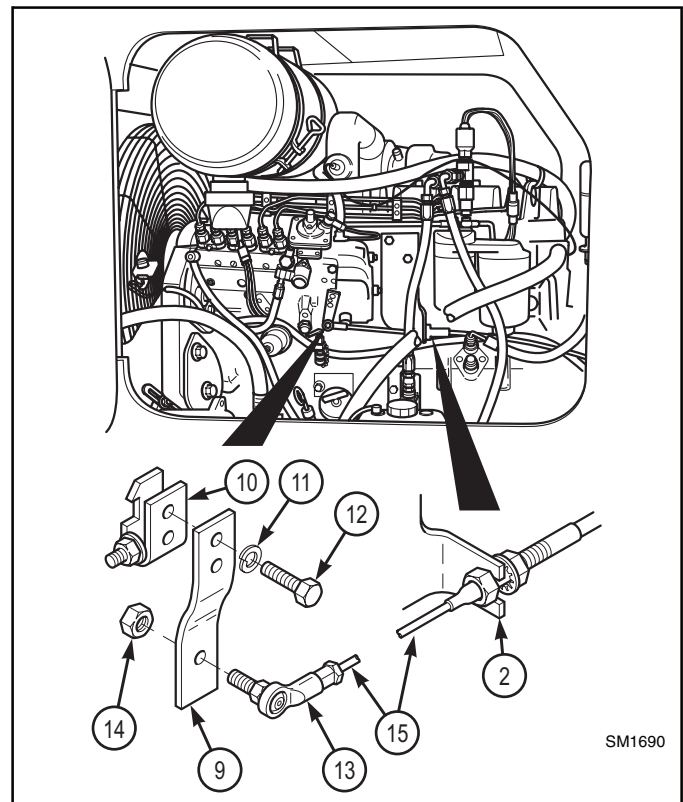

Figure 18
- (From the kit) install throttle strip bracket #6617792 (9) on fuel injection pump linkage (10) of new engine block with two lockwashers # 8307024 (11) and screws # 8310034 (12). (Figure 18).
- (From the kit) temporarily install rod end # 8340034 (13) on throttle strip bracket (9) with locknut # 8305650 (14). (Figure 18).
INSTALLATION (Figure 18)